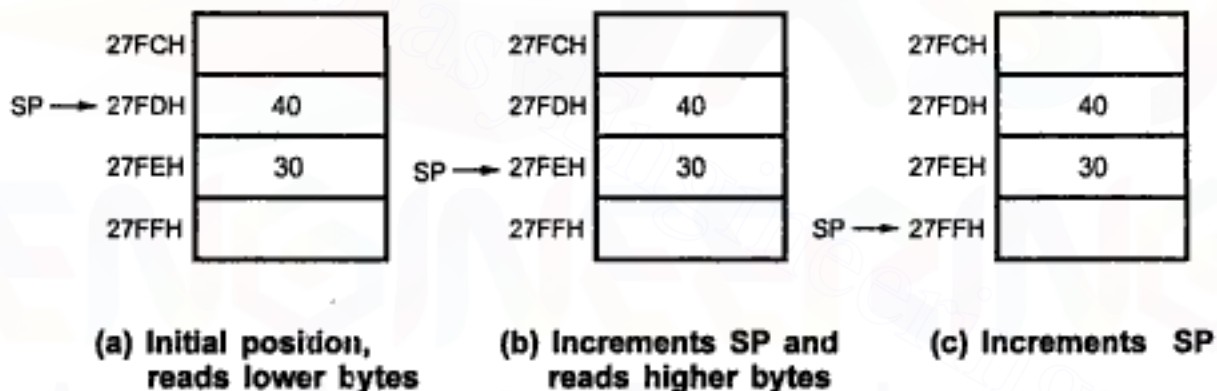

Fig. 5.5 Steps Involved in POP operation with example
**Example 2 :** If the initial contents of stack and contents of stack pointer are as shown in Fig. 5.5 (a) then after execution POP B contents of BC register will be 3040 (B = 30H and C = 40H).